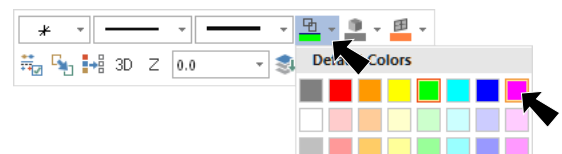

Fig. 9
Step 8. **Right click** in the graphics window and on the Mini Toolbar click **Wireframe Color**  drop down arrow and select **magenta**, **Fig. 9**.